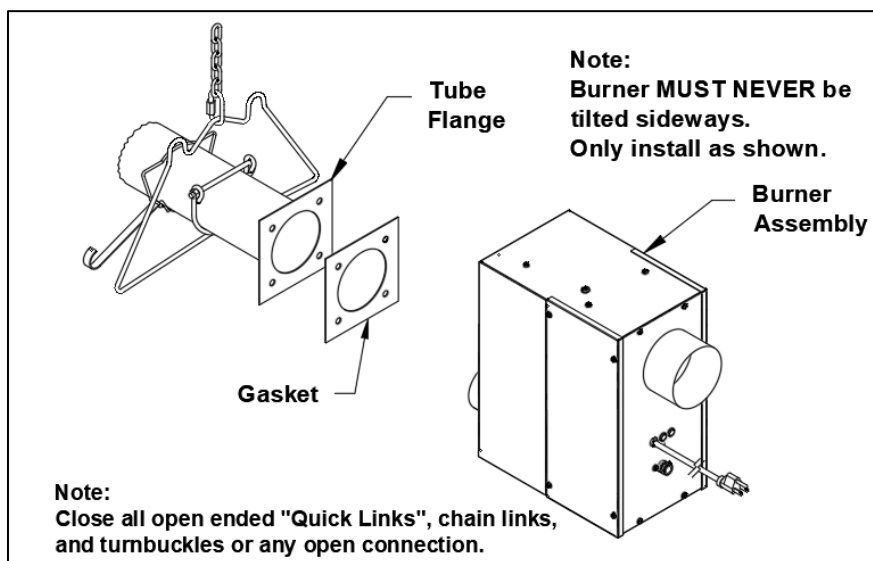

Figure 9: Burner Gasket Installation
- Locate the burner gasket provided, bolt the burner in place on the tube flange with provided hardware. **Burner must never be installed in a tilted position.** The sense electrode of the burner cup should be in the 12 o'clock position (Figure 9).